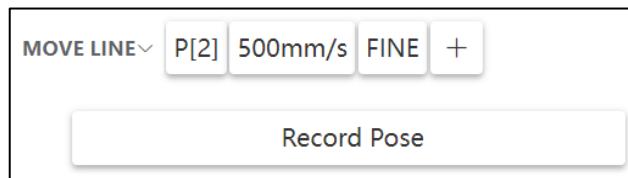
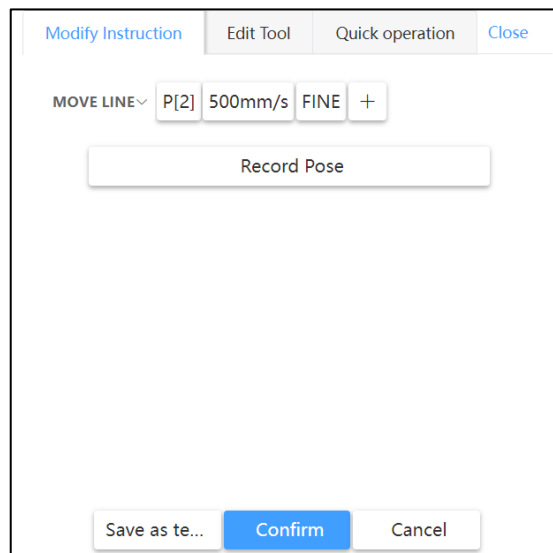

Fig. 4.14 Motion Instruction Editing Window
Fig. 4.15 Example of Continuous Motion Instruction
4. Teach the robot to the desired target position, click on new pose in Fig. 4.14, and "" in P [*] will display specific numbers as shown in Fig. 4.15. Click "Confirm" to complete the insertion of motion instructions (insertion steps are the same for MOVEJ and MOVEC instructions).
instruction editing interface to switch between motion MOVEC). In order to edit P, click "P [*]" in Fig. 4.14 to